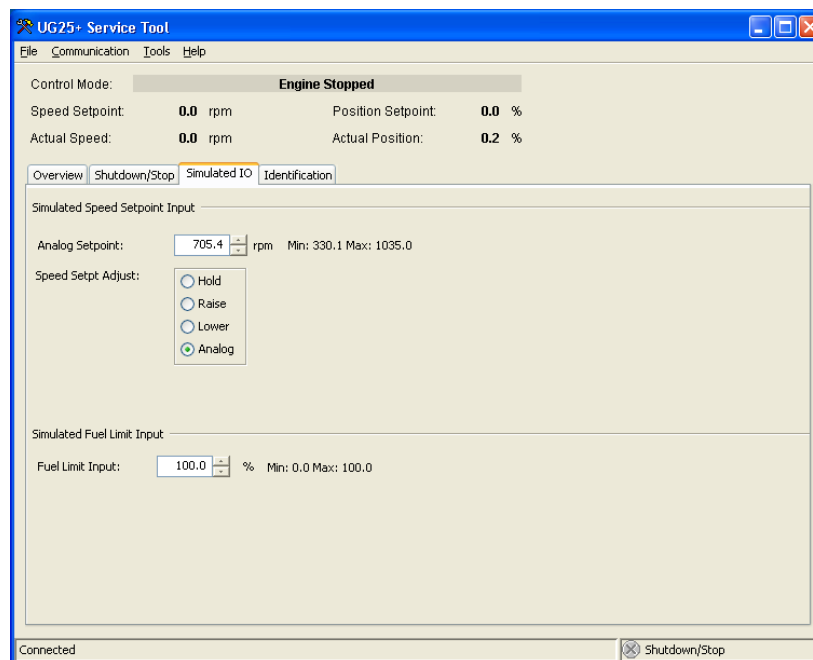

Figure 5-5. Service Tool – Simulated I/O Tab
- Simulated I/O (see Figure 5-5)
While communicating to the service tool, Speed Setpoint commands (analog, raise, lower) and Load Limit inputs (Aux 3 and Aux 4) are not functional since these input pins are used for both Input and for serial communications. The Simulated I/O screen (Figure 5-5) is provided to facilitate operational testing while connected to the Service Tool.